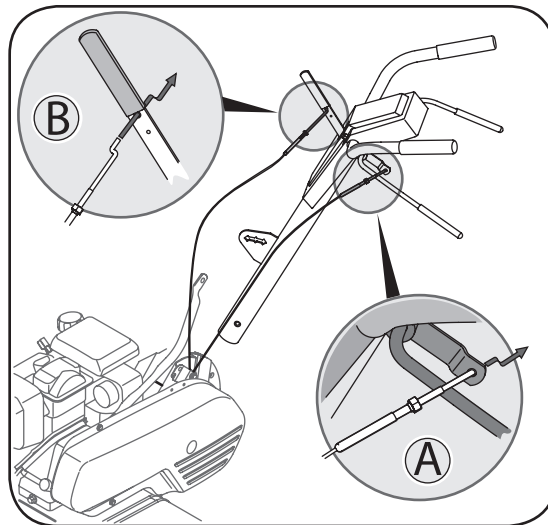

Figure 3-2: Insert cables into levers.
2. Hook the “Z” end of the forward clutch cable (A) into the forward tine engagement lever Figure 3-2.
3. Hook the “Z” end of the reverse clutch cable (B) into the reverse tine engagement lever Figure 3-2.